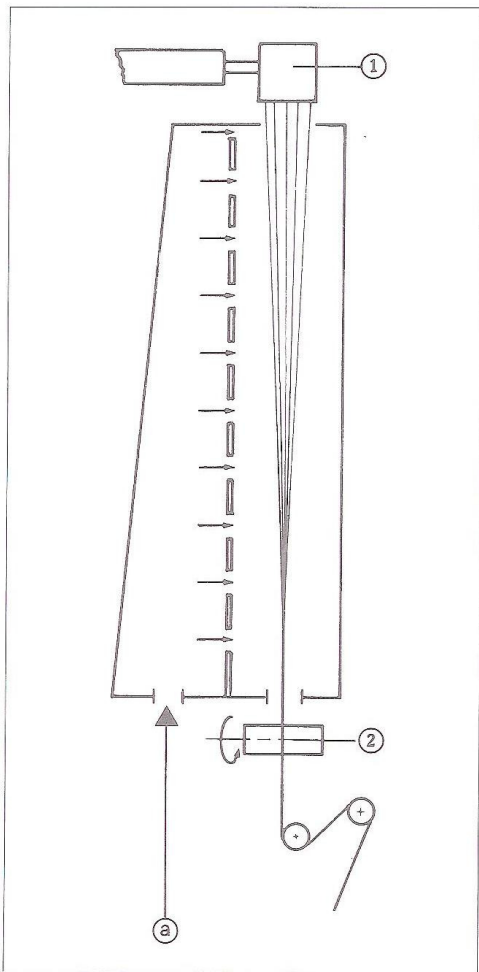

Fig. 23 - Blower box or air distributor (a = air; 1 = extrusion head; 2 = finishing roll).
1) blower box or air distributor (fig. 23), which should be designed in such a way as not to distribute the air onto the extrudate in a violent way. Generally, a good "box" will distribute $3\text{m}^3/\text{minute}$ of air without giving rise to damage